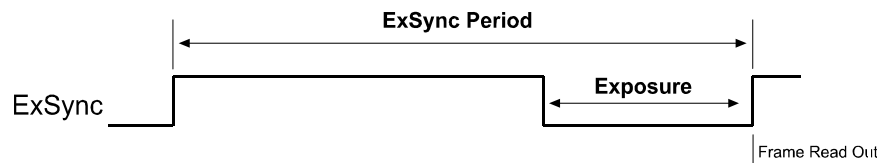

Figure 3-4: ExSync Level-controlled Mode
- In **ExSync level-controlled mode**, the exposure time is determined by the time between the falling edge of ExSync and the next rising edge. The pixels are exposed and charge is accumulated only when ExSync is low. The frame is read out and transferred on the rising edge of the ExSync signal (see Figure 3-4).